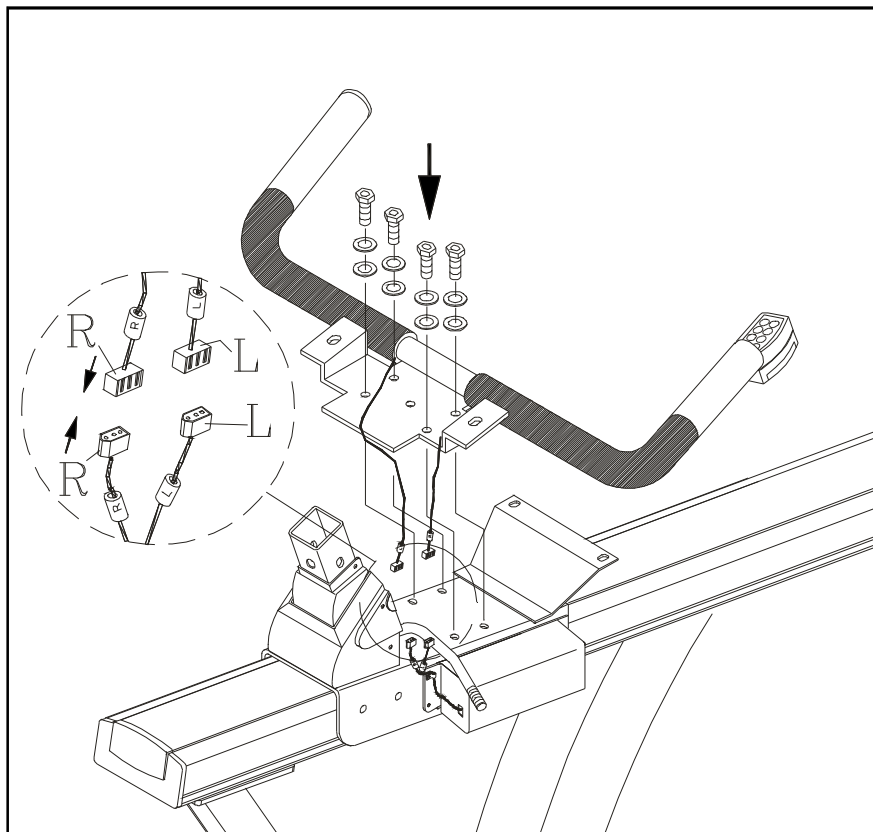

Fig.6
8. Attach the handlebar mounting plate to the cycle frame, using the bolts and washers provided. If your unit is equipped with Hand Touch Readout, connect the two wires in the right place " R " to " R " and " L " to " L " (see Fig. 6).